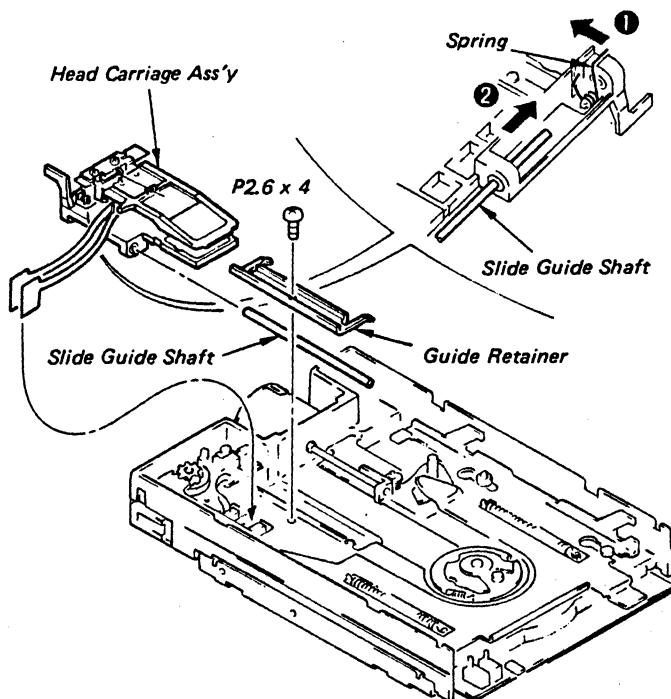

Fig. 4-9 Head Carriage Ass'y Replacement
- e. Remove the screw (P2.6x4) securing the Guide Retainer and then remove the Guide Retainer, Head Carriage Ass'y and Slide Guide Shaft. (Refer to Fig. 4-9)
Note: The spring of Head Carriage Ass'y, that is located in around shaft hole, should be installed inside so that the Guide Shaft is forced outwardly by the spring force, as shown in Fig. 4-9.
- b. Put the Head Carriage Ass'y and the Slide Guide Shaft in place, and install the guide retainer with a screw (P2.6x4). (Refer to Fig. 4-9)